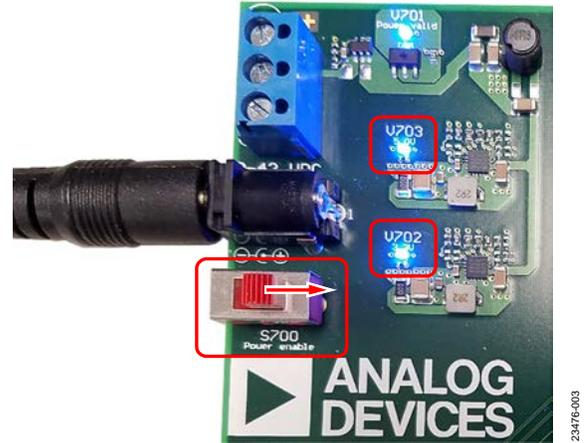

Figure 3. Power Switch in ON position and 5 V and 3.3 V LEDs
2. Switch the Power Enable switch on the baseboard to the ON position, as shown in Figure 3. The 3.3 V LED (V702) and the 5.0 V LED (V703) illuminate blue.